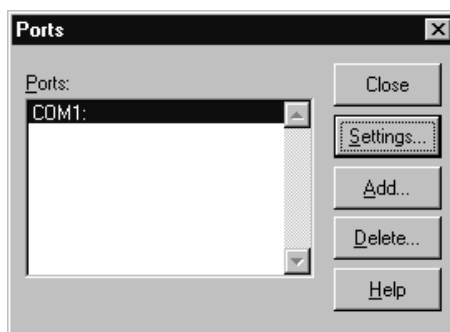

Figure C-3: Ports dialog box
- 3 From the Ports dialog box, select the port, such as COM1 or COM2 (Figure C-3).